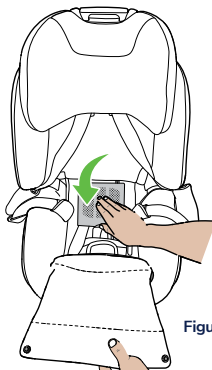

Figure 9
Step 4. Close the access door (Figure 9).